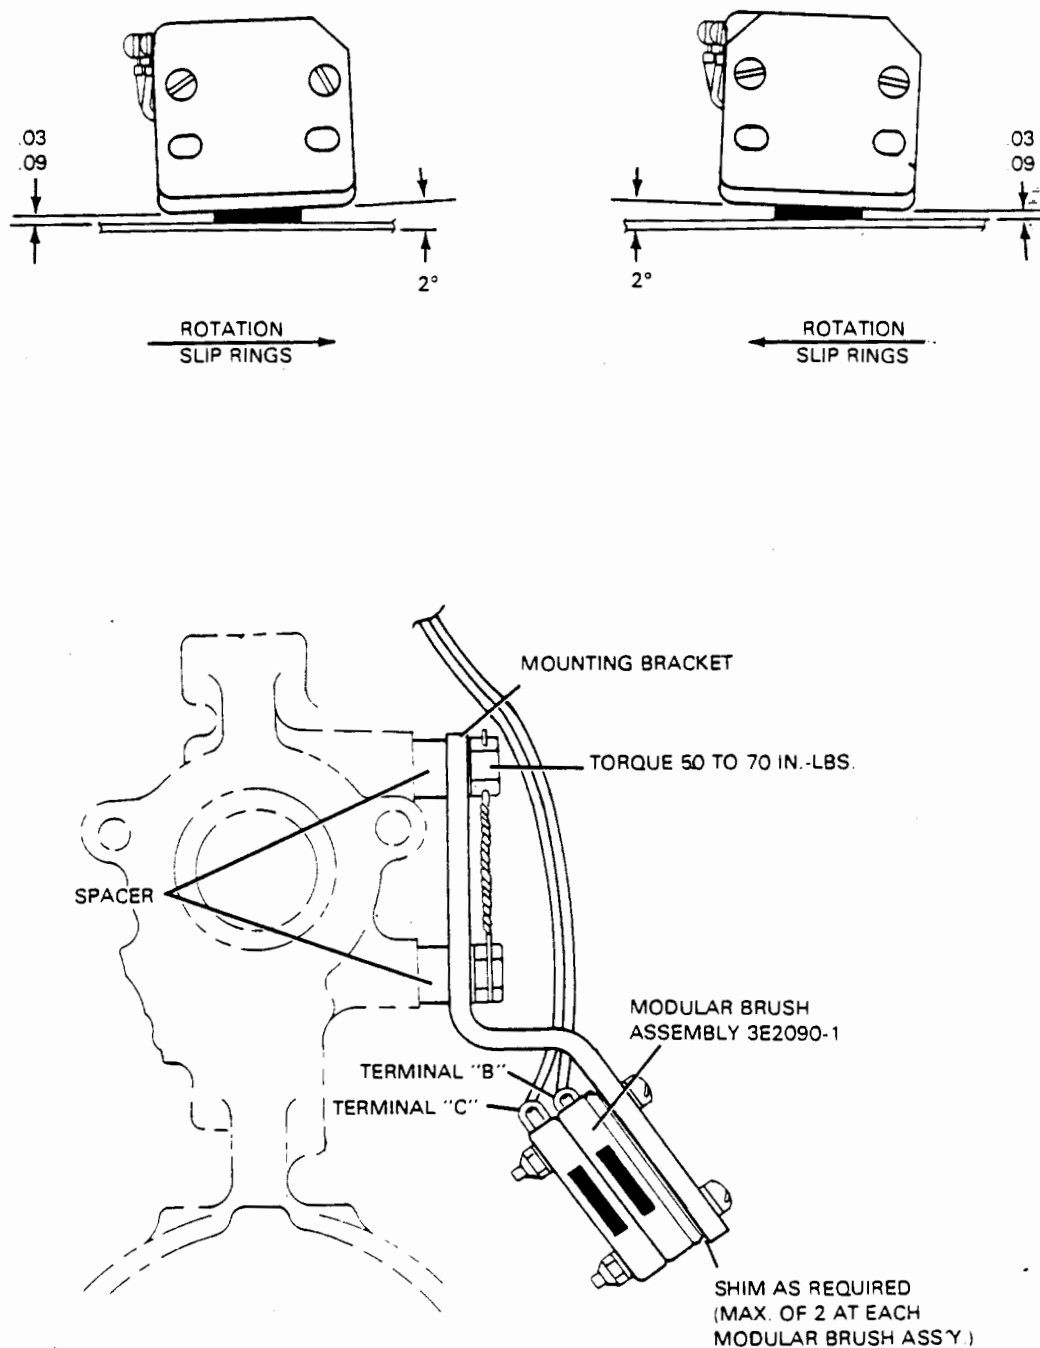

Figure 30-6. Modular Brush Assembly Alignment
- B. Check for proper clearance of brush block to slip rings as shown in Figure 30-6. If not correct, loosen mounting screws and move in elongated holes to correct block position before tightening securely.
- C. Visually check brush block for approximately 2° angle of attack. (Refer to Figure 30-6.) If not, loosen mounting screws and twist block, but be sure to hold clearance limits shown when tightening.